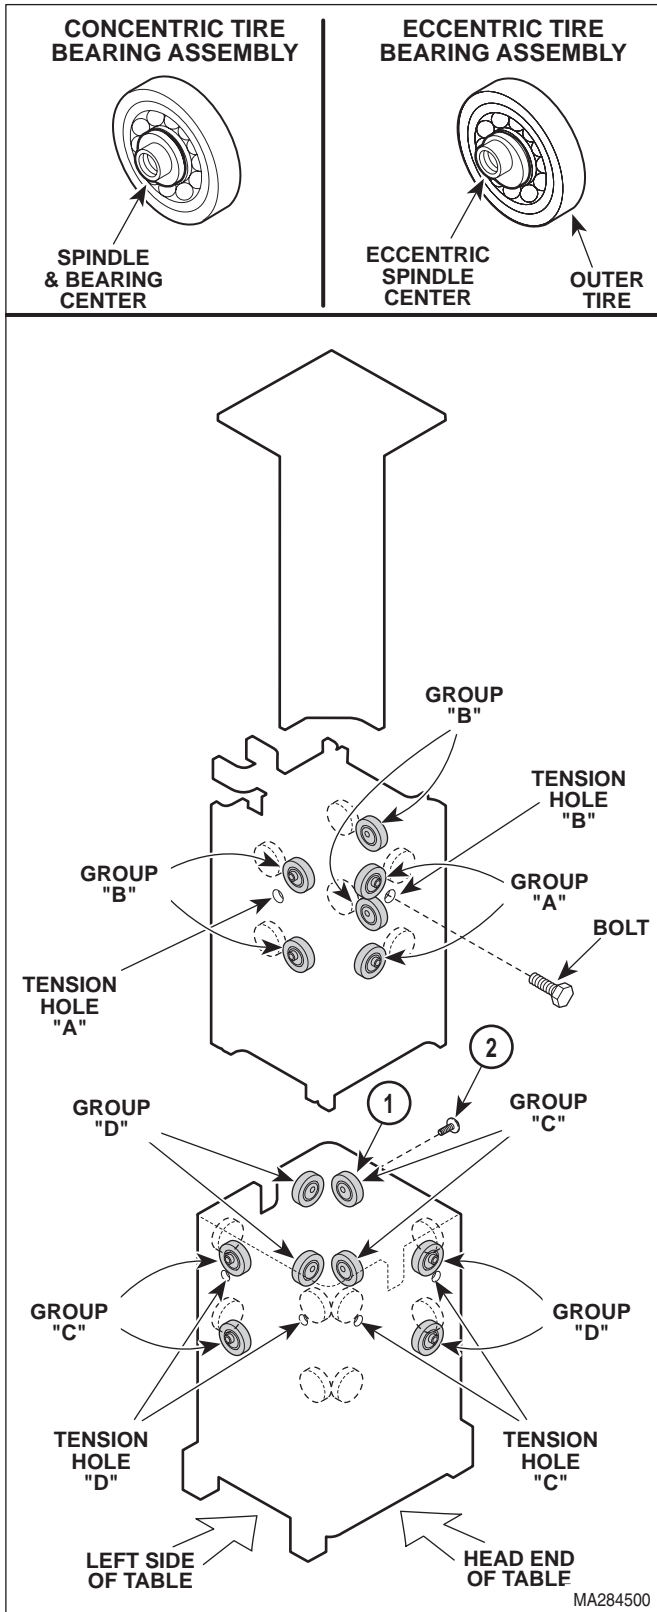

Figure 4-26. Eccentric Bearings Adjustment
- (3) Remove four screws (4) and R.H. and L.H. middle shrouds (5).
- (4) Disconnect modular cords (6) from inlet PC boards (7).
- (5) Remove four screws (8), four screws (9), two screws (10), and partially remove R.H. and L.H. inner shrouds (11) from base casting (12).
- (6) Run TABLE UP and TABLE DOWN function while observing all eccentric bearings (1, Figure 4-26).
- (7) Note which eccentric bearings (1) do not rotate during entire movement of column assembly; these are the bearings which need adjusted.
- (8) Determine what letter group the eccentric bearing you need to adjust is in; Group A, Group B, Group C, or Group D.
- (9) Install $\frac{5}{16}$ - 18 x 1- $\frac{1}{4}$ Bolt(s) in the Tension hole(s) which matches the letter group of eccentric bearing being adjusted; for Group A, bolt is installed in Tension Hole A, for Group B, bolt is installed in Tension Hole B, for Group C, bolts are installed in Tension Holes C, for Group D, bolts are installed in Tension Holes D. Refer to Table 1-2 for special tool.
- (10) Tighten $\frac{5}{16}$ - 18 x 1- $\frac{1}{4}$ Bolt(s) until tension is relieved from the eccentric bearing (1) being adjusted.
- (11) Loosen screw (2).
- (12) Rotate outer tire of eccentric bearing (1) in a clockwise direction (as viewed from outside of column) until eccentric bearing becomes harder / or impossible to rotate (meaning the eccentric spindle in the eccentric bearing is forcing the outer tire against the column weldment rail as desired). Secure eccentric bearing in this position by tightening screw (2) to 17 to 20 ft-lbs. (23 to 27.1 N•m).
- (13) Remove $\frac{5}{16}$ - 18 x 1- $\frac{1}{4}$ Bolt(s) from Tension hole.
- (14) Repeat step 6 thru 13 until all eccentric bearings are properly adjusted.
- (15) Connect modular cords (6, Figure 4-26) to inlet PC boards (7).
- (16) Install R.H. and L.H. inner shrouds (11) on base casting (12) and secure with two screws (10), four screws (9), and four screws (8).
- (17) Assemble R.H. and L.H. middle shrouds (5) around inner shrouds (11) with four screws (4).
- (18) Install tabs of R.H. and L.H. outer shrouds (2) in slots column adapter weldment (3) and secure with four screws (1), making sure middle outer shroud assembly (5) is captured by R.H. and L.H. outer shrouds (2).